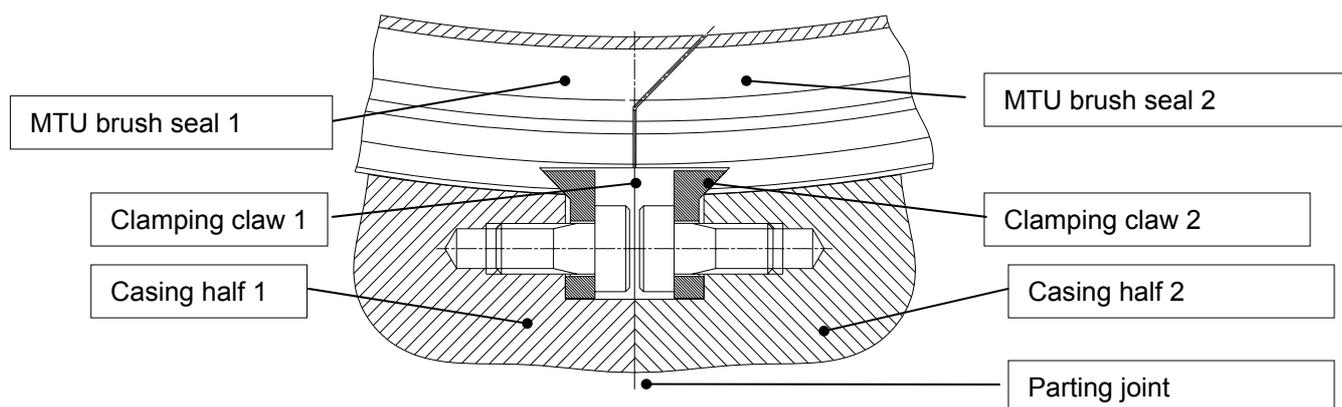
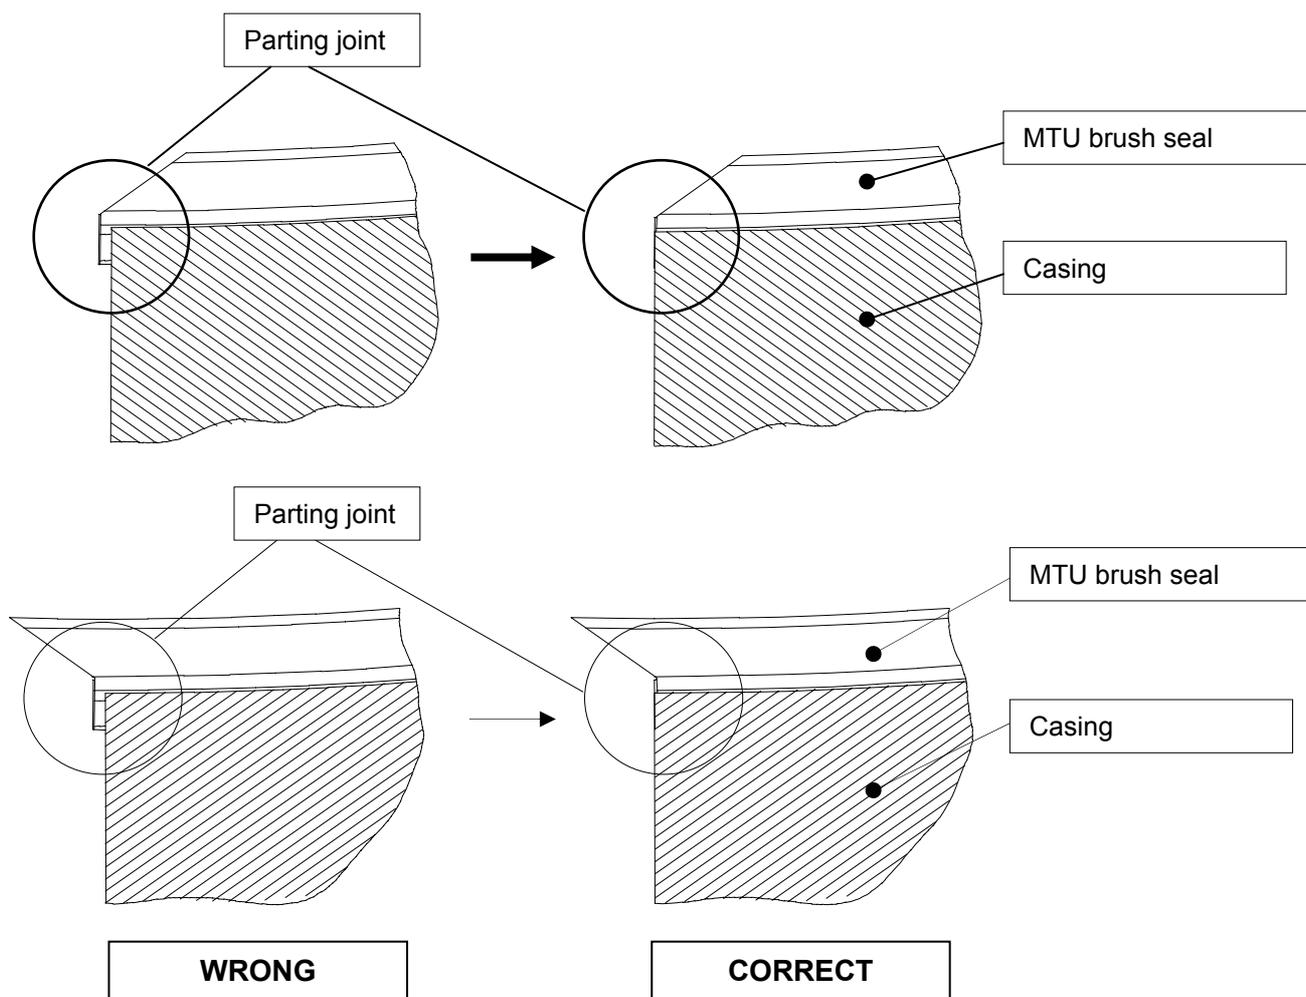

Figure 4. Split MTU brush seal (installed with clamping claws)
Figure 5. Parting joint configuration
Split MTU brush seals are positively or non-positively locked to prevent their rotation in the casing. Clamping claws (see figure 4), locking wires and the like may be used for the purpose
4. Use a straight-edge or equivalent device to check that the parting joint of the seal is flush with the parting joint of the casing (see figure 5). Otherwise, the MTU brush seal segments might overlap or there might be a gap between them (see figure 4).